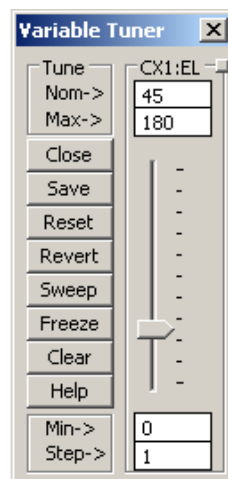

Figure 4.7: Chart 2 : Tune Tool Dialogue Box
- In the tune dialogue box set the 'min' and 'max' values to 0 and 180 respectively. Set the 'step' parameter to 1 See figure 4.7